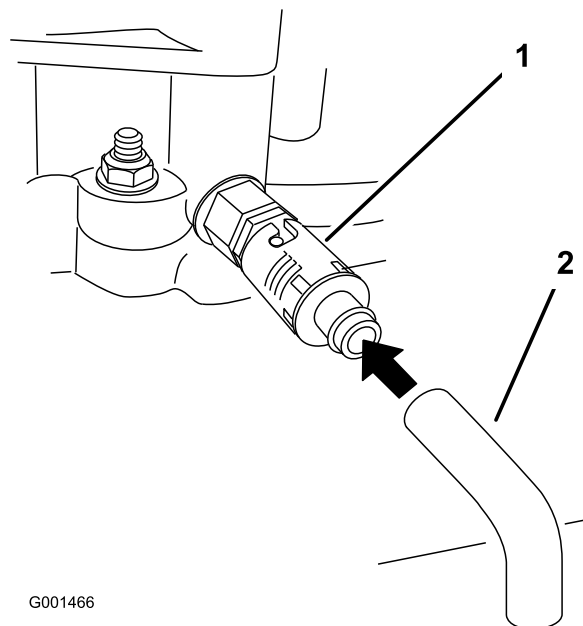

Figure 28
5. Place a pan below the drain hose. Rotate oil drain valve to allow oil to drain (Figure 28).
7. Remove the drain hose (Figure 28).